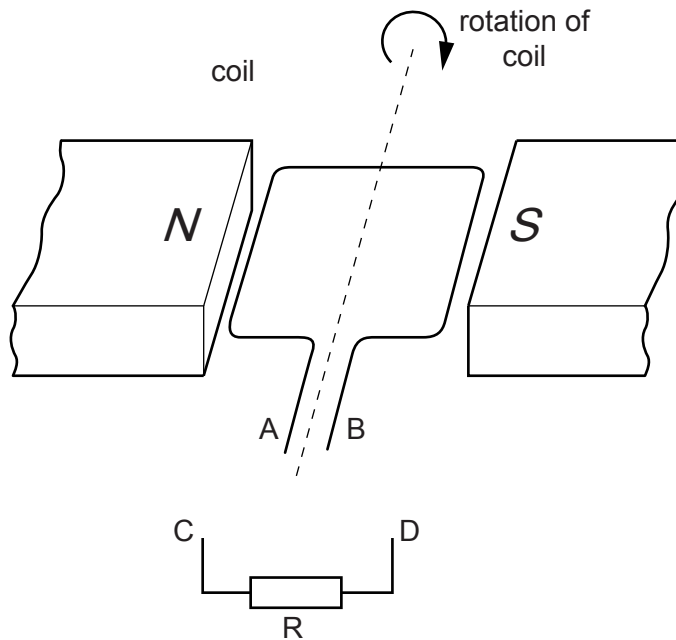

Fig. 10.1
- 2 Fig. 10.1 shows a coil of wire rotating steadily in the magnetic field between the poles of a permanent magnet. The current generated in the coil is to pass through resistor R.
- (a) The apparatus in Fig. 10.1 is part of an a.c. generator. What is connected between the ends A and B of the coil and the connections C and D?